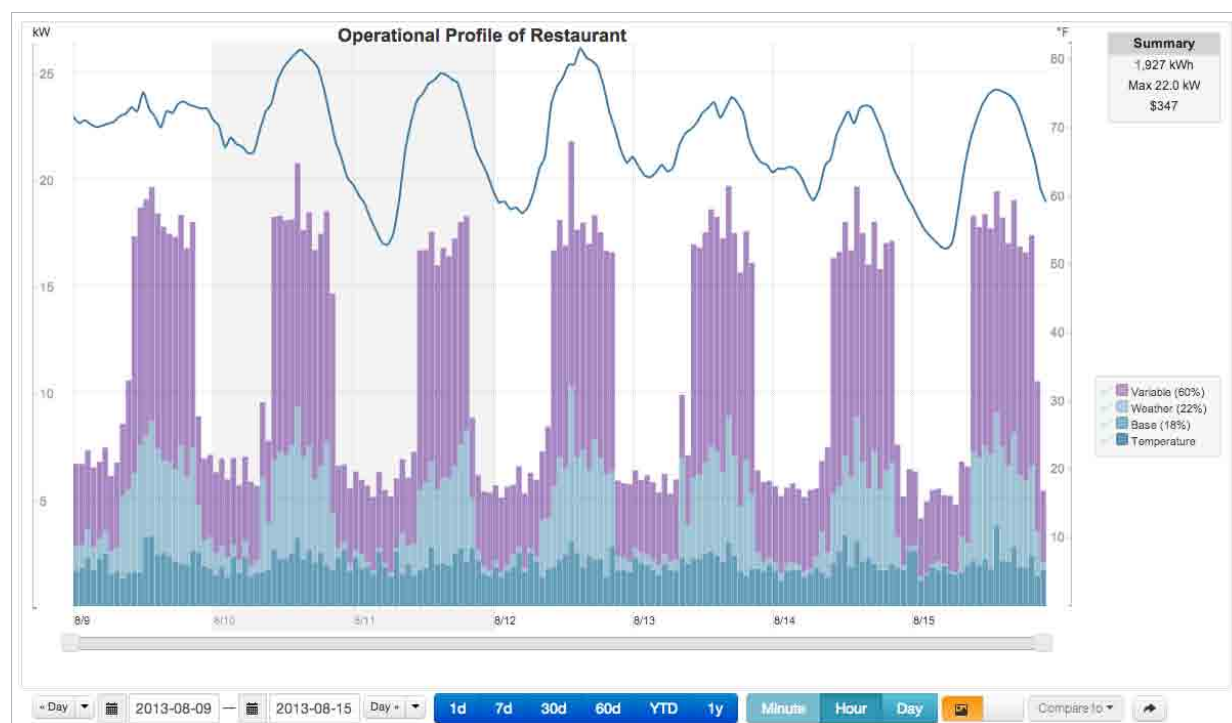

Figure 3: Facility energy summaries enhance system management
Continuous data collection makes compliance with these regulations easy, at a cost comparable with time-limited audits. Once the Enertiv E1 system has been installed, a facilities/energy manager can review multiple properties from one console and stay constantly informed with email notifications and regular energy summaries and reports that are automatically provided by the system (see **Figure 3**). Together with the Enertiv Pulse (EP), it is possible to tie in electrical data along with other forms of resource consumption, such as oil, water, and gas to achieve a full real-time perspective on the health and well being of a building. Typical facilities which can best benefit from this system are office buildings, light manufacturing facilities, municipalities, schools,